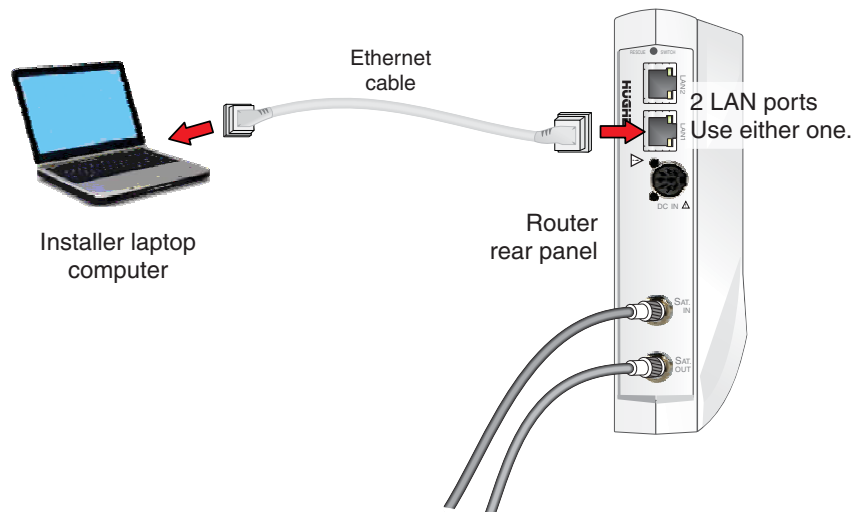

Figure 6: Connecting the installer laptop
1. Use an Ethernet cable to connect your laptop computer directly to either of the router's two LAN ports, as shown in Figure 6.